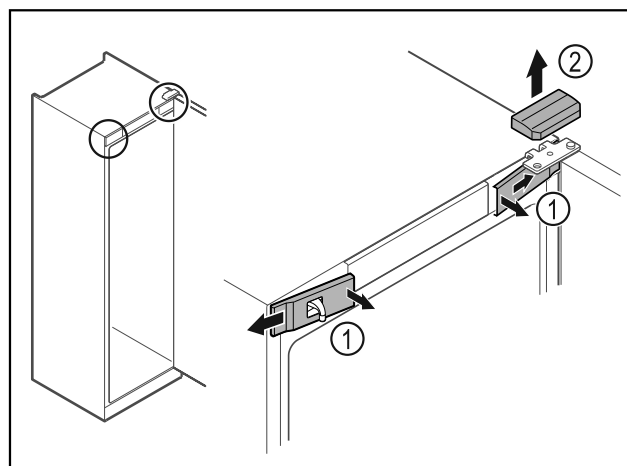

Fig. 2
- Unlatch the front covers Fig. 2 (1) on the inside and remove them sideways.
- Lift off the upper cover Fig. 2 (2).